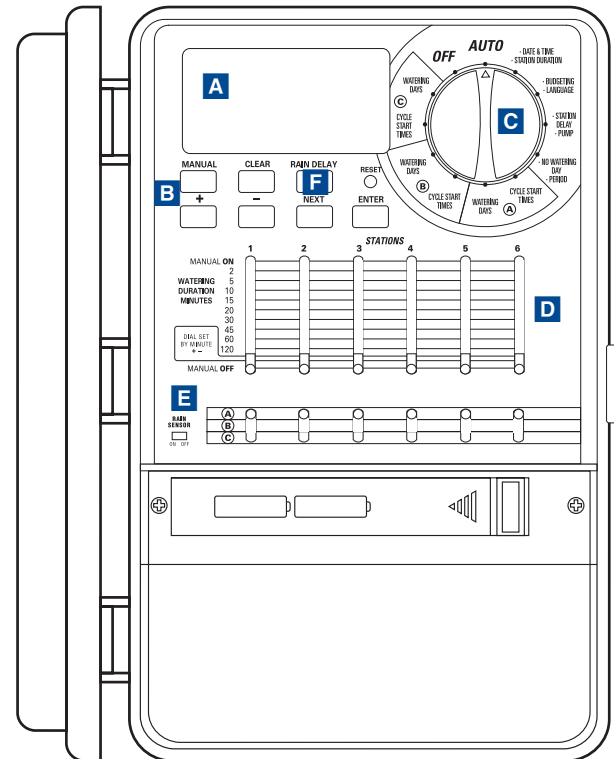

Figure 1: Front view of sprinkler timer
- Slide the battery cover to the left [See Figure 1]